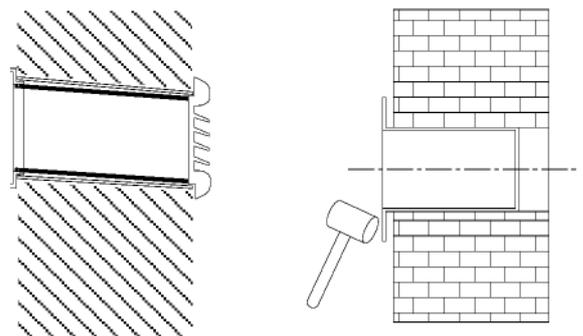

Fig. 10
After drilling the holes, the plastic pipes supplied with the air conditioner have to be fitted through them. The pipe with insulation on the inside has to be fitted in the right hand hole with the insulated part toward the inside as indicated on the label applied to it. The length of the pipes should be 55 mm less than that of the wall. To cut the pipe, a normal handsaw can be used. After cutting the pipes, fit the ends into the two internal anchoring flanges (fig. 10).
The tube diameter is 152mm and should fit comfortably into the hole formed by the 158mm diameter core drill. When introducing the tubes they may need to be forced slightly using, in the most difficult cases a normal rubber hammer (fig. 10/1). Having the hole internal diameter extremely similar to the tube external diameter avoids dangerous slacks which may generate humidity infiltrations or air noises. Should the insertion prove to be too difficult, we suggest you drill using the core bit inside the hole so as to widen the internal diameter slightly. If there is excessive play and air gap around the tubes then we recommend a sealant be used to ensure a tighter fit.
- Fit the small eyelet of the spring, with the long stem, on the cap pin (on both components) (fig. 10/2).
- Fit the two caps (with spring), from the front part of the external grid, on the two housings, pulling until a click is heard (fig. 10/3) and attach the two chains to the large eyelet of the spring.